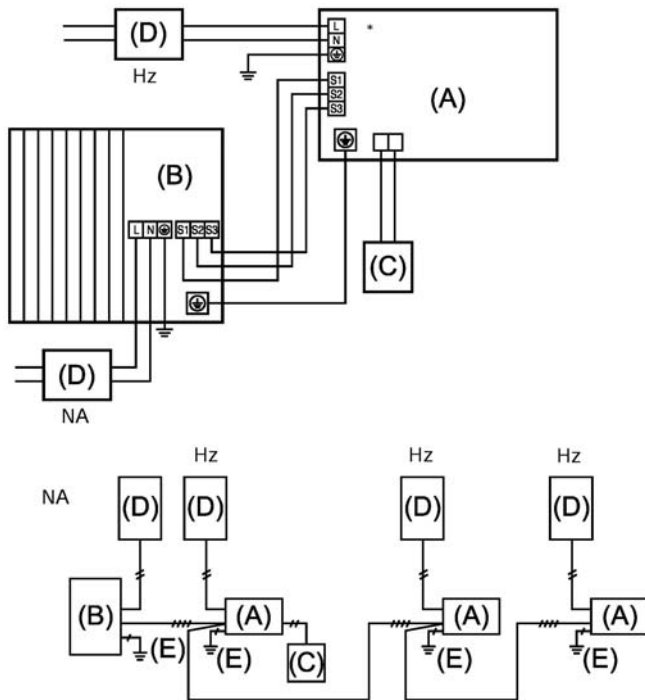
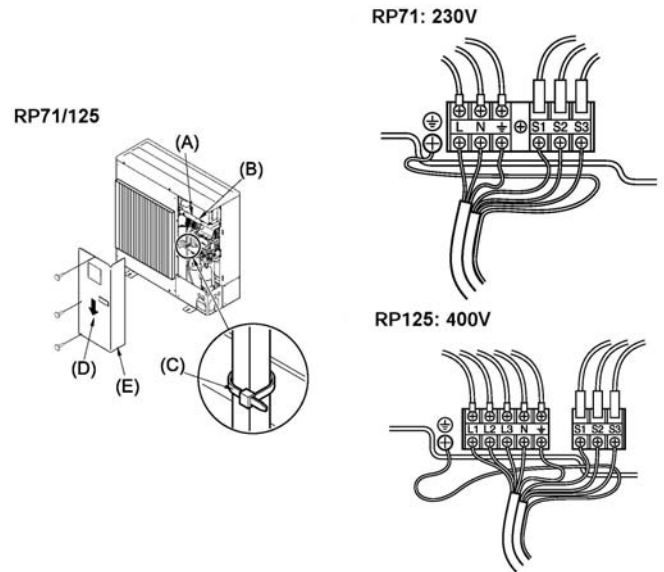

Fig. 18:
Fig. 19:
- 2) Connect up the cables according to Fig. 18 and Fig. 19.
Legend for Fig. 18:
Legend for Fig. 19: